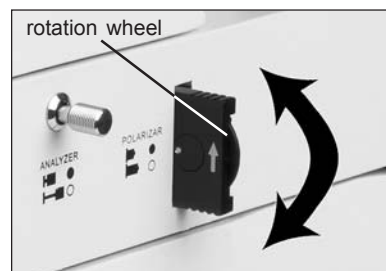

Figure 56
10. As with the transmitted polarizer, the reflected illumination also features a simple polarization function. Located at the right side of the reflected illuminator is the analyzer knob which must be pushed inward as well as the polarizer slider (figure 56). Polarization is achieved by turning the rotation wheel at the end of the polarizer slider (figure 56) to the desired level of extinction.